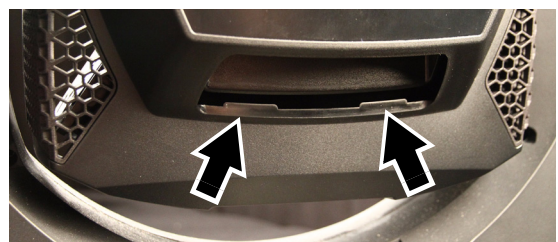

Figure 10: Head cover locating tabs
2. See Figure 10. Note the position of the head cover locating tabs. Slide the head cover towards the back of the fixture so that the tabs engage.